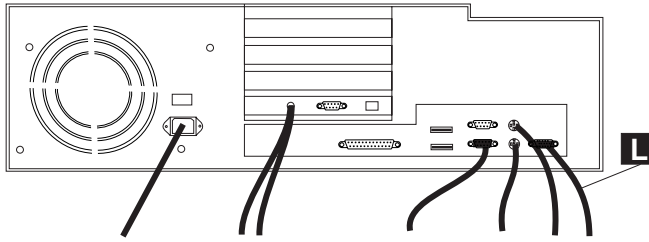

Figure 6-15. Display Connection to the NAS
4. At the rear of the rack, connect the display signal cable **L** to the NAS connector (refer to Figure 6-15 on page 6-12).